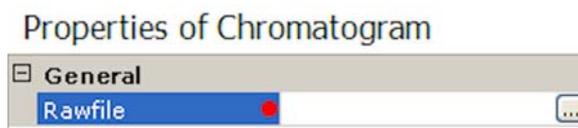

Figure 3-15. Selecting a rawfile
1. In the Properties of Chromatogram pane, click into the empty field of the Rawfile parameter to display the button. See Figure 3-15.